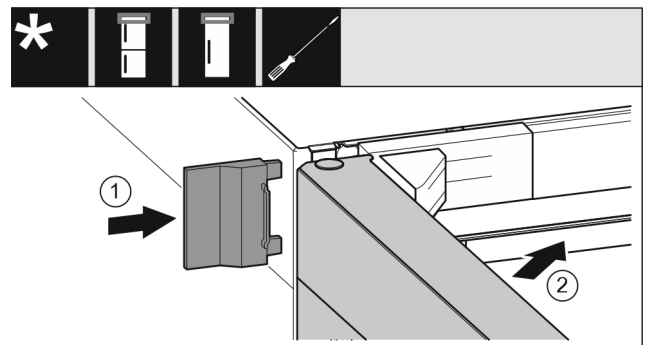

Fig. 23
- ▶ Slide on the outer cover. Fig. 23 (1)
- ▶ Close the upper door. Fig. 23 (2)